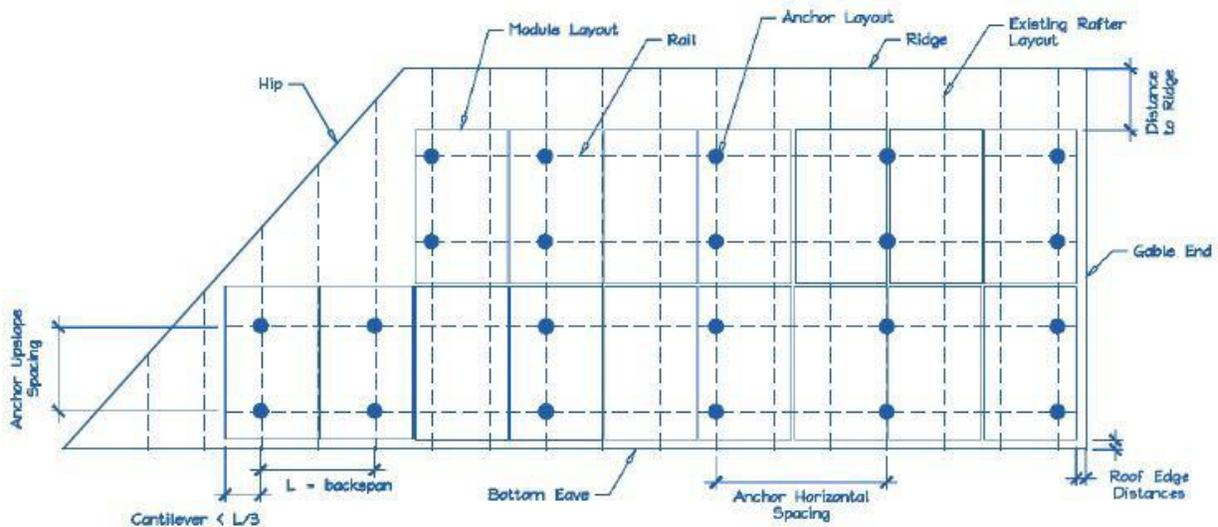

**Figure 1 Roof Visual Structural Review (Contractor's Site Audit) of Existing Conditions.**
- 2) Does the roof structure appear structurally sound, without signs of alterations or significant structural deterioration or sagging, as illustrated in Figure 1?  Y  N